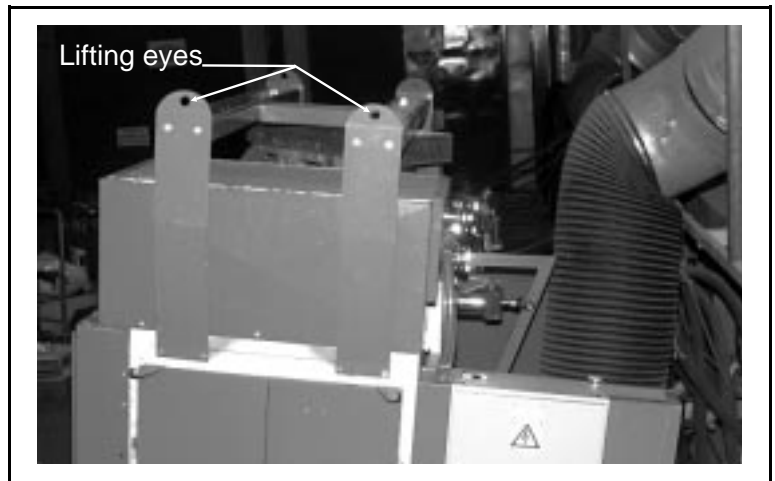

FIGURE 1 (MSIN0129AE)
2. Lifting rings are provided on the top of the house (FIGURE 1) and are tagged as such. These lifting rings must be used for crane lifting.